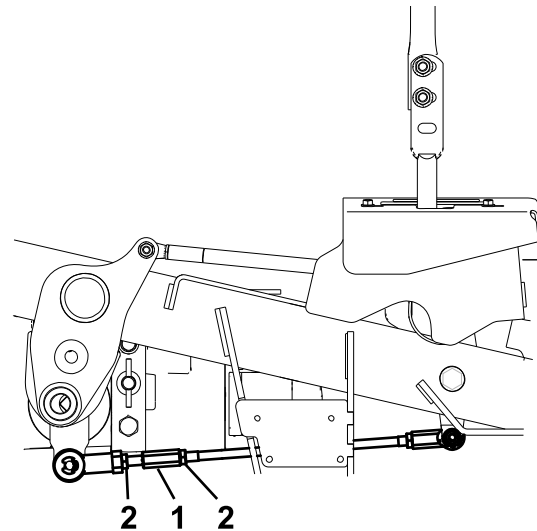

Figure 66
5. Loosen lock nuts from the ball joints at each end of the pump control linkage (Figure 66).